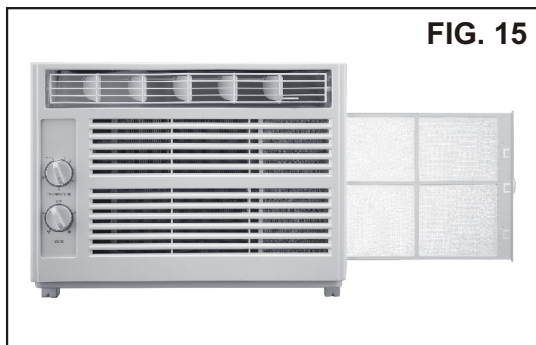

FIG. 15
1. Remove the filter by sliding it out from the front right side of the air conditioner. (See FIG. 15)